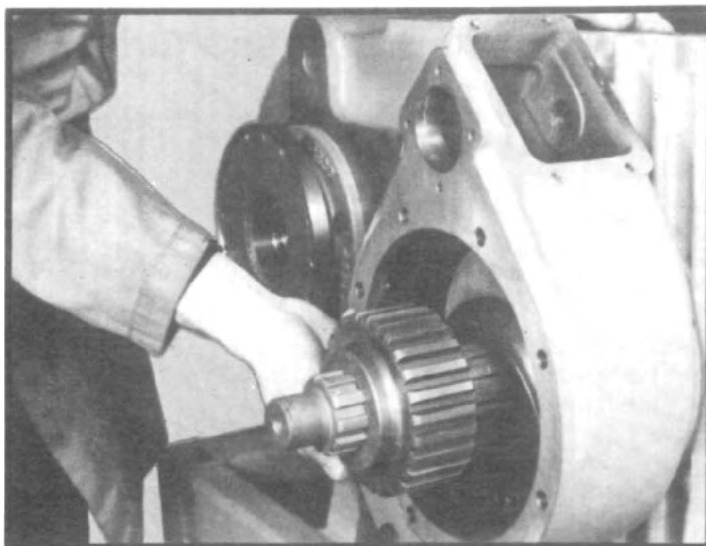
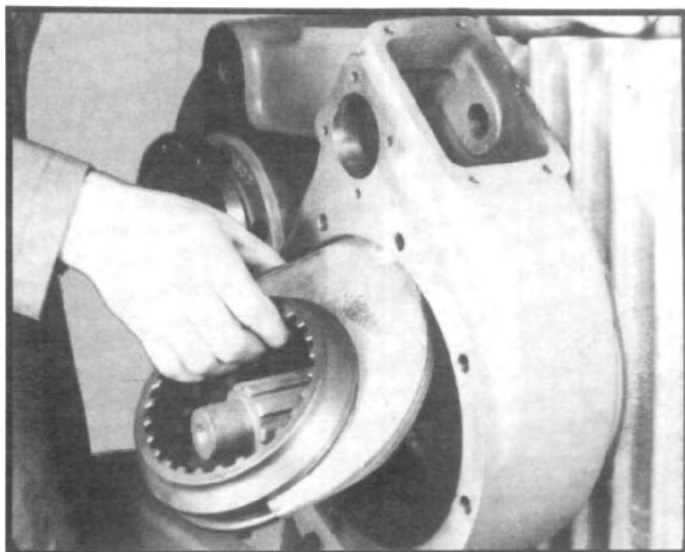

Fig. 14
Fig. 15
13. Withdraw lockout gear, (See fig. 14), shift fork and clutch collar. (See fig. 15.)